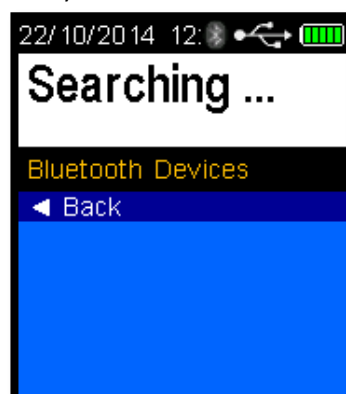

Figure 100 Searching Displayed
- Press the test key, the LE5 will search for the serial instrument and display Searching... (Refer Figure 100).